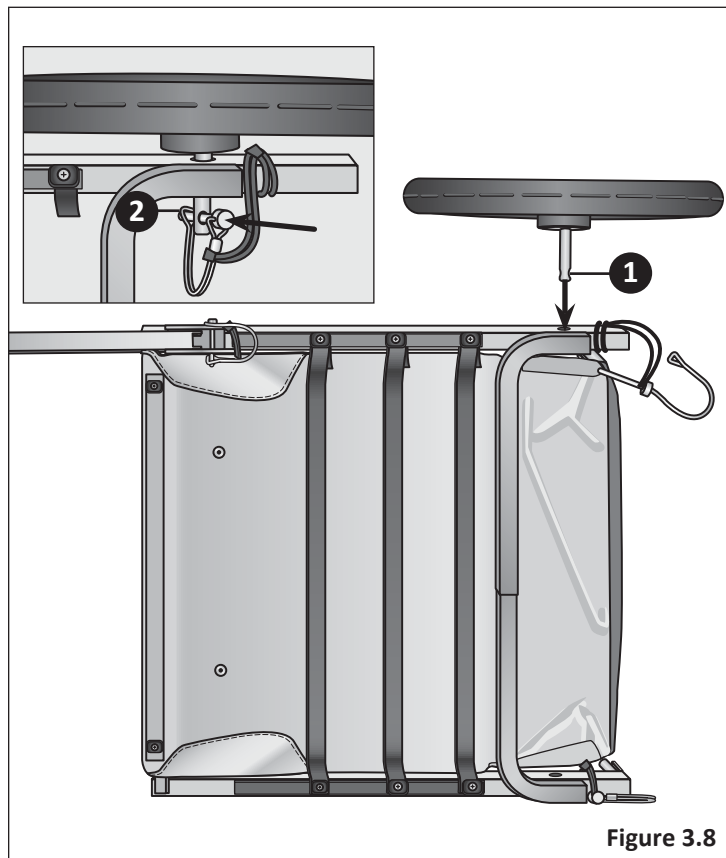

Figure 3.8
- 1 Insert the axle of the wheel into the wheel hole located towards the rear of the trailer. **Figure 3.8**